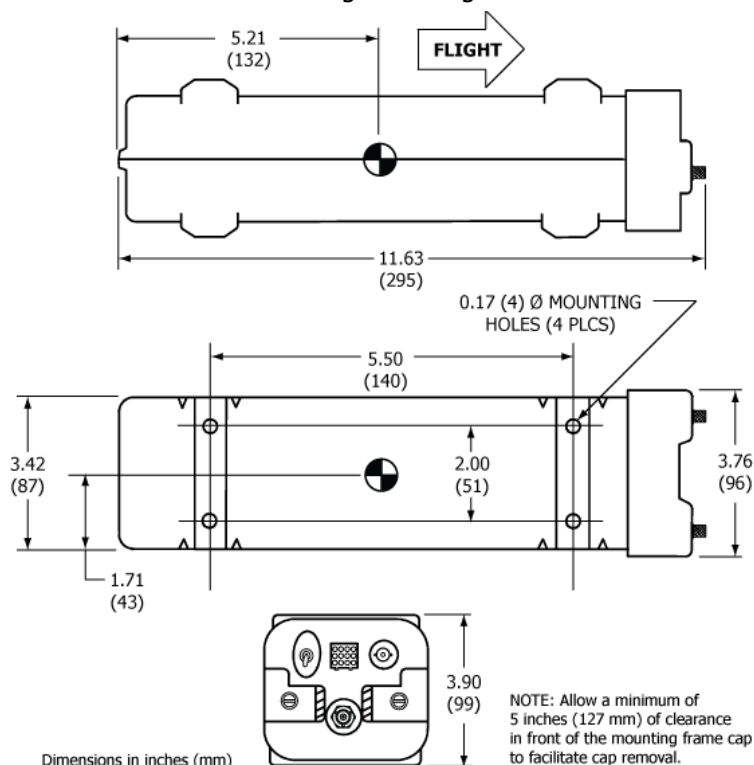

Figure 12 B406-4 ELT Outline and Dimensions
- 1) Select a suitable location for the mounting tray. See Figure 12 B406-4 ELT Outline and Dimensions. Refer to these dimensions when determining mounting location.
- 4) Mark the four holes needed for mounting the tray, using the tray as a pattern. The hole pattern is also illustrated in Figure 12 B406-4 ELT Outline and Dimensions on page 43.